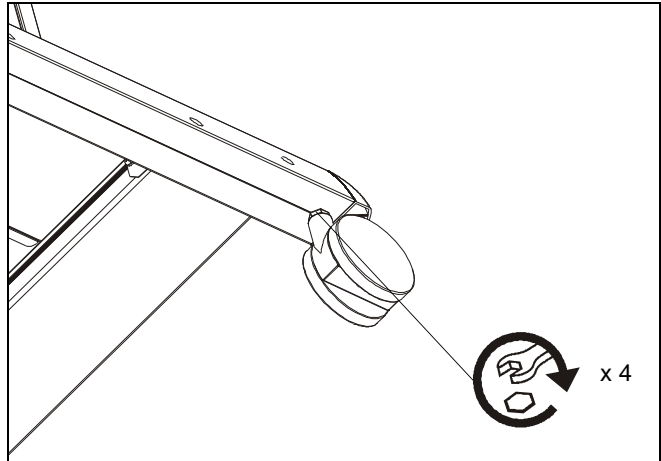

Figure 22
3. Check and tighten the hex nuts on the casters occasionally. (See Figure 22) These should be checked especially after use on uneven ground.